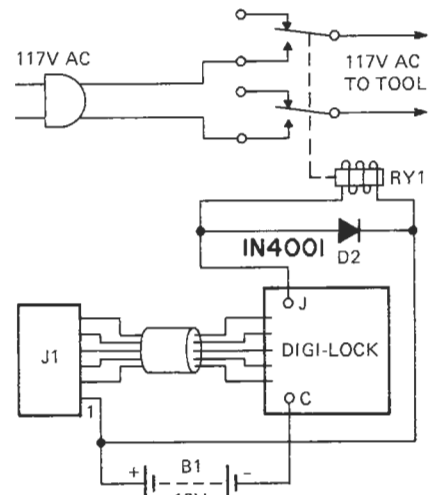

**FIG. 7—THE DIGI-LOCK drives door opener.** A 1N4003 diode is preferred for D2.
- D2—1A, 1N4003 (see Fig. 7)
When used as a door lock, the output transistor, Q2, is used to drive a door opener to activate the latch. The door opener can be operated from the same battery that operates the lock or from a separate source as shown in Fig. 7. The diode D2 protects Q2 from re-